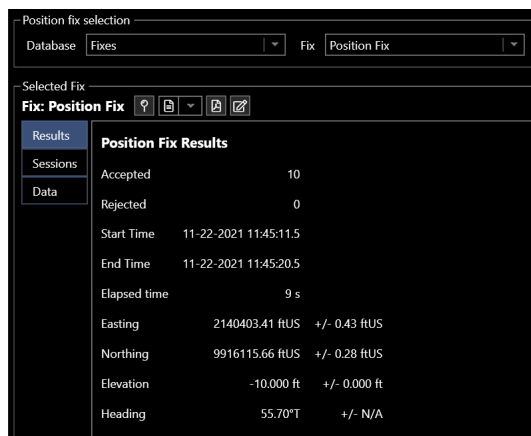

FIGURE 14-128 POSITION FIX QUERY RESULTS EXAMPLE
2. The selected position data will then be used to populate Selected Fix panel as shown in Figure 14-128. For details regarding working with the data from this view, refer to and Position Fix Data View